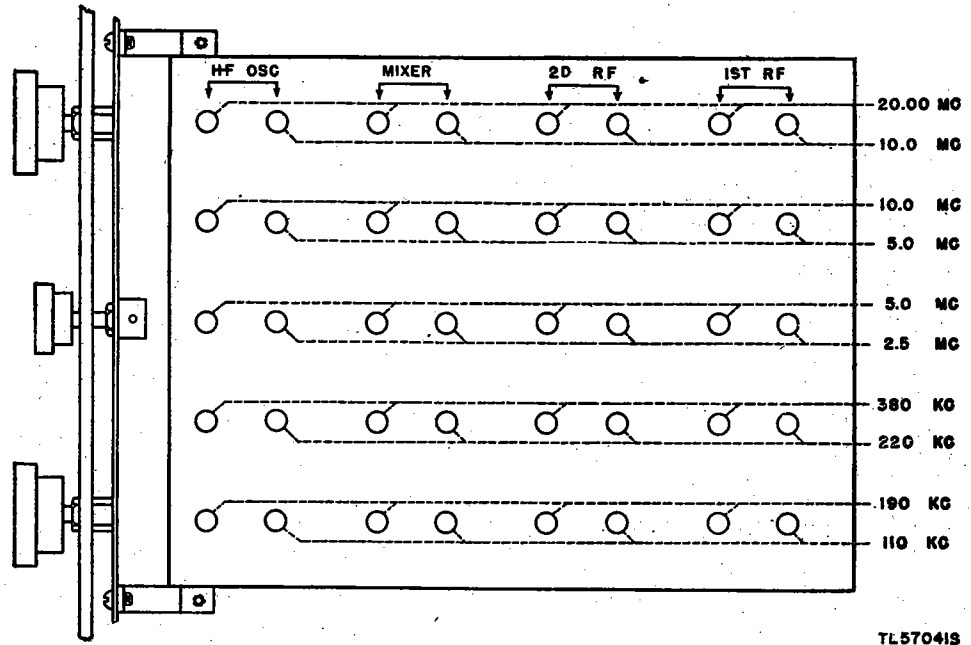
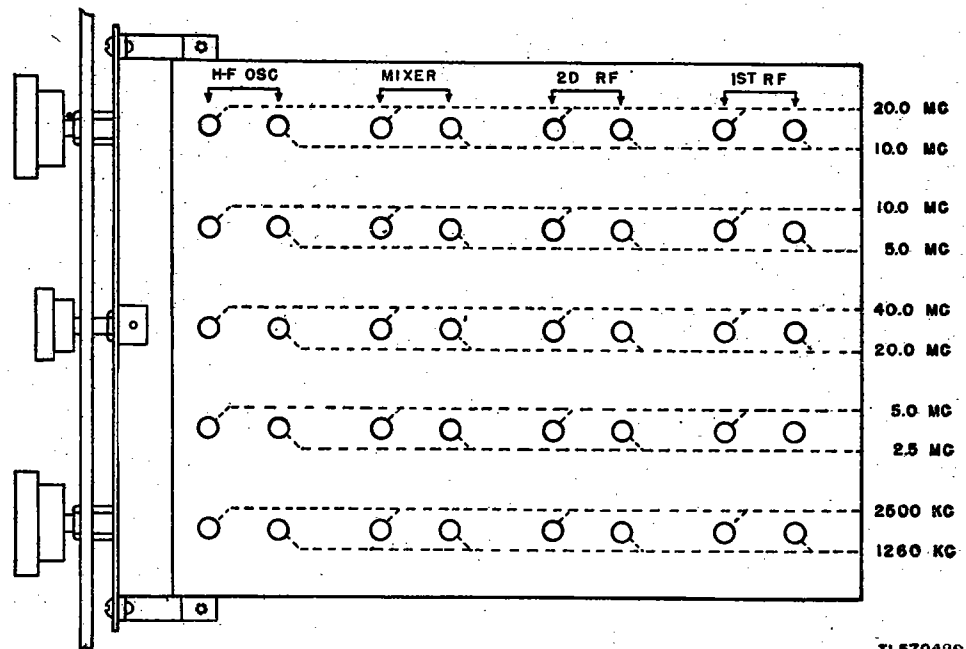

Figure 46. Radio Receiver BC-779-(\*), alinement chart.
Figure 47. Radio Receiver BC-794-(\*), alinement chart.
shown in figures 46, 47, 48, and 49, respectively. If necessary, the second harmonic can generally be used when the fundamental frequency is not available. For example, a signal generator covering all frequencies from 100 kc to 20 mc, in addition to being ideal for checking Radio Receiver BC-779-(\*), could be used to check Radio Receiver BC-794-(\*), by using the second harmonic of 20 mc instead of the 40 mc called for in figure 47. The signal generator should have an output of about 100 microvolts and an output impedance of approximately 100 ohms for best results when alining the r-f and h-f oscillator circuits. For i-f alinement these values are not critical. The frequency calibration of the signal generator is extremely important in order that the receiver dial calibration be correct.
b. To correct dial calibration, refer to an alinement chart, figure 46, 47, 48, or 49 for the location of the h-f oscillator adjustments as well as the signal frequencies at which the settings should be made. If the 2.5- to 5.0-mc band is to be corrected, the signal generator may be *accurately* set to 2.5 mc and its second harmonic (if strong enough) used for the 5.0-mc end of the band. In either case, whether the 5.0-mc frequency is the fundamental or second harmonic, the 5.0-mc frequency *must* be accurate. This requires that the setting of the signal generator be accurately adjusted by the use of a frequency meter as described in paragraph 94. The output of the signal generator should be unmodulated and the SIGNAL MOD-CW switch on the receiver turned to CW. Set the BEAT OSCILLATOR control at 0, the AUDIO GAIN at 10, and the AVC-MANUAL switch on MANUAL. Disconnect the output meter and use headphones or loudspeaker to make the necessary adjustments by the zero beat method. Connect the signal generator to the antenna terminals for this test.
c. Set the receiver MAIN TUNING dial to the 5.0-mc end and then tune it to zero beat with the 5.0-mc output of the accurately calibrated signal generator. Notice the approximate dial error. Then turn the MAIN TUNING dial slightly toward the 5.0-mc calibration line until the beat note rises to a high pitch. Do not turn the dial far enough to raise the beat note so high that you cannot hear it. With the alinement screw driver adjust the trimmer capacitor marked H-F OSC-5.0 MC (fig. 46, 47,
48, or 49) until the beat note is again zero. Turn the MAIN TUNING dial still farther toward the 5.0-mc line and make a further adjustment of the trimmer capacitor to return to zero beat. Repeat this procedure as many times as necessary to bring the dial to exactly 5.0 mc. (It is evident that the dial could be set at once on exactly 5.0 mc and the trimmer turned enough at one time to produce zero beat, but the step-by-step method is recommended). Accurately set the signal generator to 2.5 mc by calibrating it with the frequency meter. Then tune in the 2.5-mc signal at the 1-f end of the MAIN TUNING dial and correct the calibration step-by-step, as before, using the inductance trimming adjustment H-F OSC-2.5 MC (fig. 46, 47, 48, or 49). Accurately set the signal generator for an output of 5 mc again, and tune the receiver to this frequency. It will be found that the adjustment of the inductance at 2.5 mc has changed the correction previously made at 5.0 mc. This is perfectly normal, because an adjustment at one end of the dial also affects the other end of the band. It will therefore be necessary to go back and forth several times from 2.5 to 5.0 mc in order to bring both ends of the dial scale into exact agreement with the signal frequency. Be sure that the signal generator is always *accurately* set.
*c.* Starting with the 2.5- to 5.0-mc band, set the MAIN TUNING dial at 5.0 mc (band spread dial at 100) and adjust the frequency of the signal generator for peak deflection of the output meter. Then check and adjust the setting of the trimmer marked MIXER and 5.0 MC in figure 46, 47, 48, or 49 for maximum reading on the output meter. Repeat this procedure on trimmers indicated as 2D RF and 1ST RF in the same row. If readjustments on one of these settings result in a sizable increase in output meter reading, slightly alter the SENSITIVITY control to reduce the reading to half-scale. After each adjustment check the tuning of the receiver to make sure that the test signal is still accurately tuned. The BAND SPREAD control may be used as a vernier for this purpose in those bands in which it operates (par. 15c). *This tuning check is extremely important at the high end of the 10- to 20-mc and 20- to 40-mc bands where there is some slight interaction between the mixer and h-f oscillator circuit.* After checking the three trimmers at the high end of this band, turn the MAIN TUNING dial to 2.5 mc and retune the signal generator to suit. Then check the three inductance adjuster settings marked 2.5 mc in the same row. Since adjustments at one end of a band also affect the other end of that band, it will be necessary to repeat the above procedure until no further improvement can be secured. The number of repetitions necessary will depend on how much mistuning existed to start with. Check the rest of the bands in the same manner.